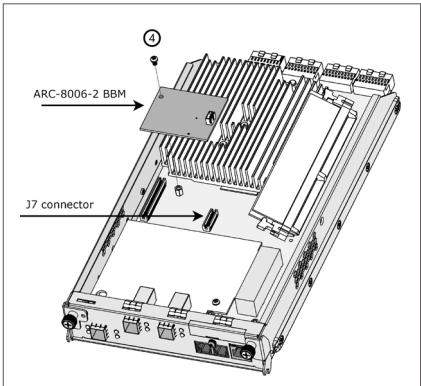

Figure B-4, Securing ARC-8006-2 on Controller
2. With the RAID controller on a flat, clean, static-free surface, hold the ARC-8006-2 control board so that the bottom side is facing upward, and the **JA1** board-to-board connector lines up with the **J7** FB connector on the RAID controller. Carefully press the ARC-8006-2 onto the RAID controller, so that the two connectors are firmly joined, as shown in Figure B-4.